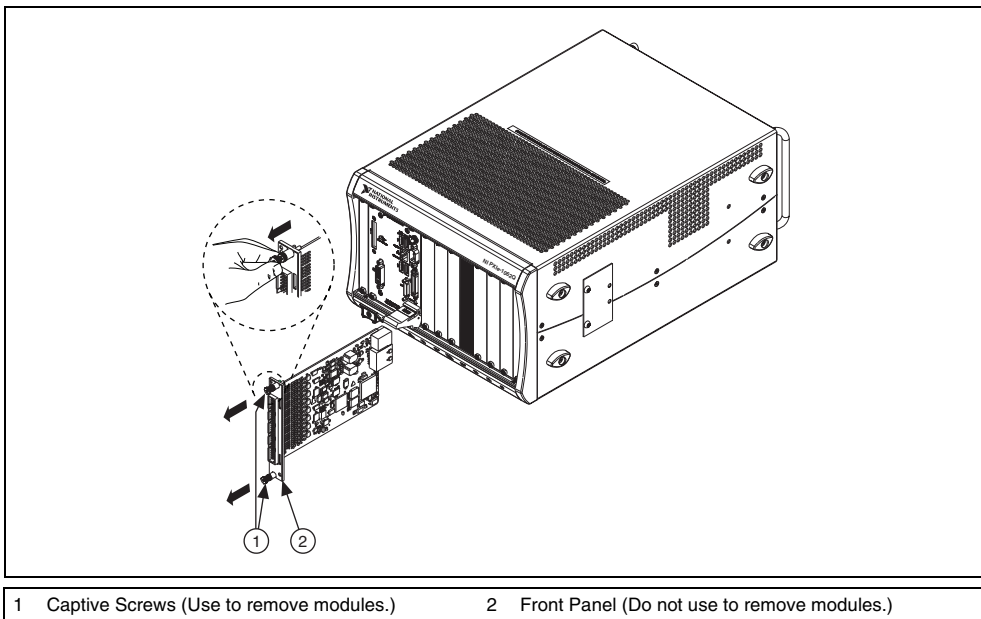

Figure 8. Removing NI SC Express Modules
3. Pull the captive screws to unseat the module and slowly slide the module along the guides, as shown in Figure 8.